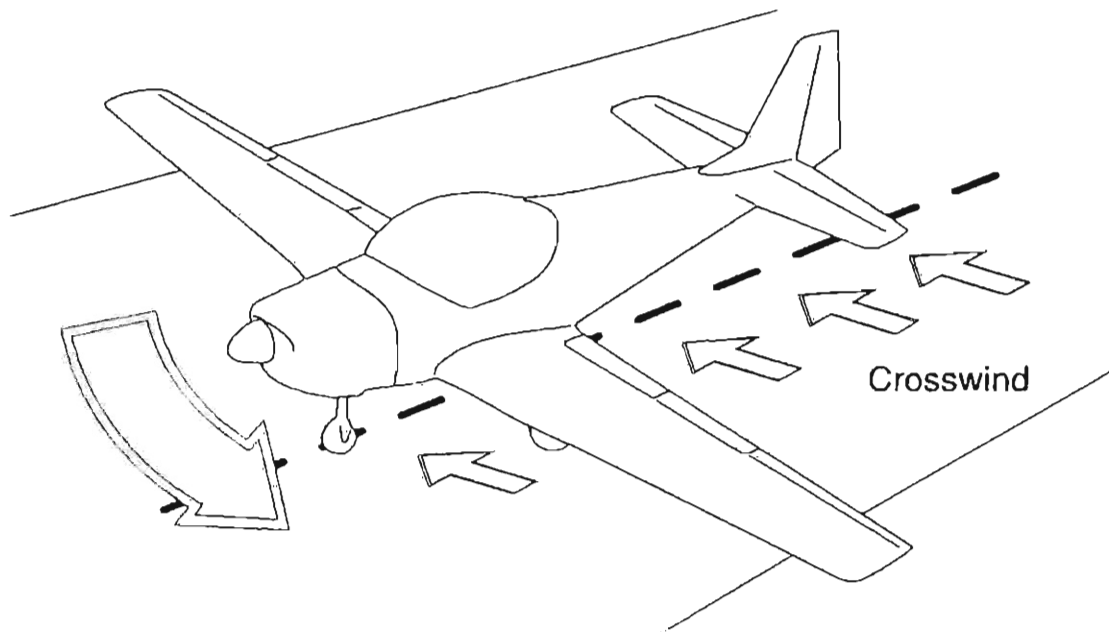

Fig 5.1 Weathercock Tendency of an Aircraft
5. The effect of wind on an aircraft's taxiing speed has been mentioned in para 4. A strong crosswind will also affect the control of direction when taxiing (Fig 5.1). Because of this, it is slightly more difficult to turn an aircraft downwind than it is to turn it into wind.